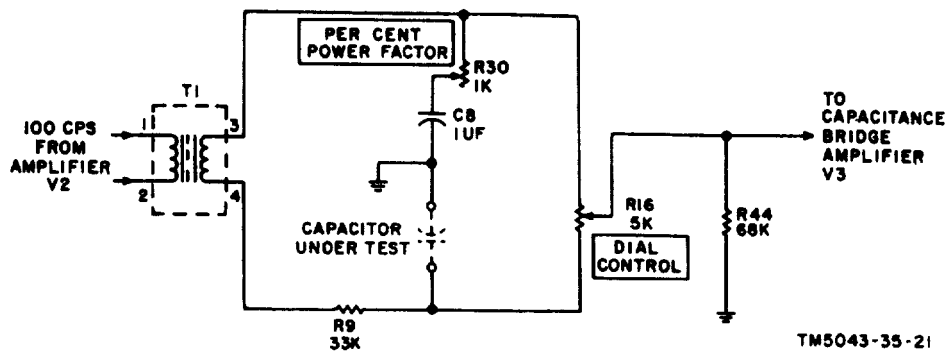

Figure 7. Capacitance bridge, .04 to 30 MF range, simplified schematic diagram.
(3) .04 to 30 MF range (fig. 7).